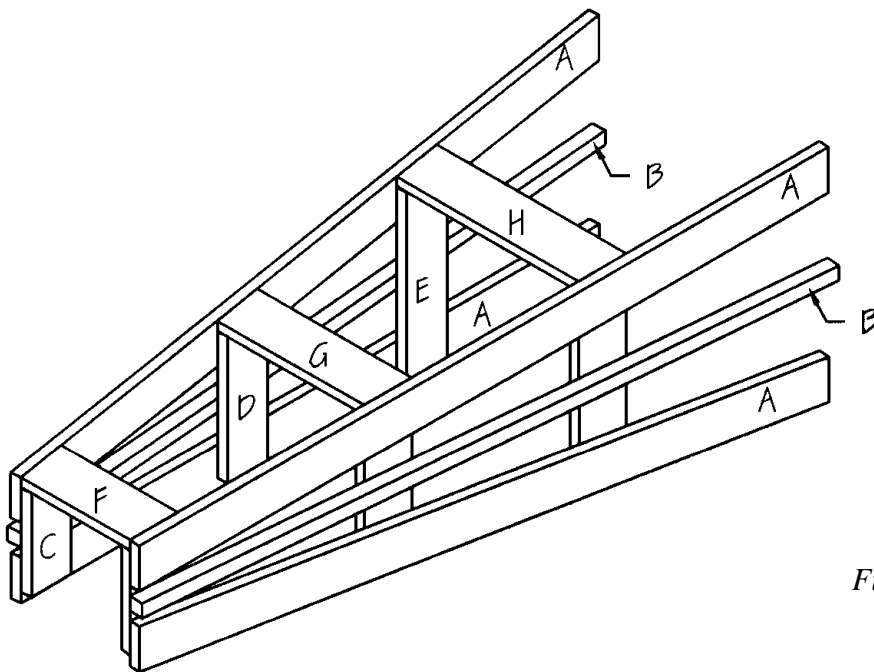

Figure 5
1. Position the two vertical assemblies (pieces A through E) opposite each other, as shown in *Figure 5*.
2. Place one Long Top Support (F) over the ends of the Short Top supports (C), as shown in *Figure 5*. Apply glue to the meeting surfaces, and screw through the Long Top Support (F) into the end of the short Top Supports (C), using 1-1/4" wood screws spaced about 6 inches apart.
3. Repeat Step 2 to attach the remaining Long Middle and Top Supports (G and H) as shown in *Figure 5*.